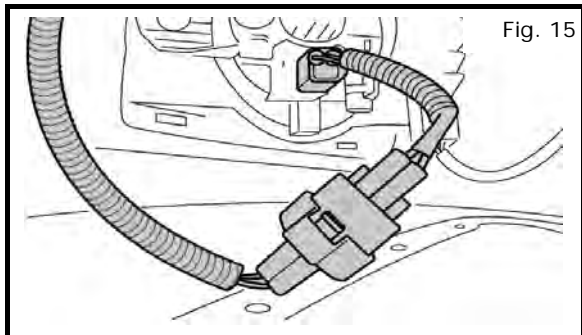

Fig. 15
a) Install opposite end of sub harness into pre-wire connector as shown in Fig. 15.